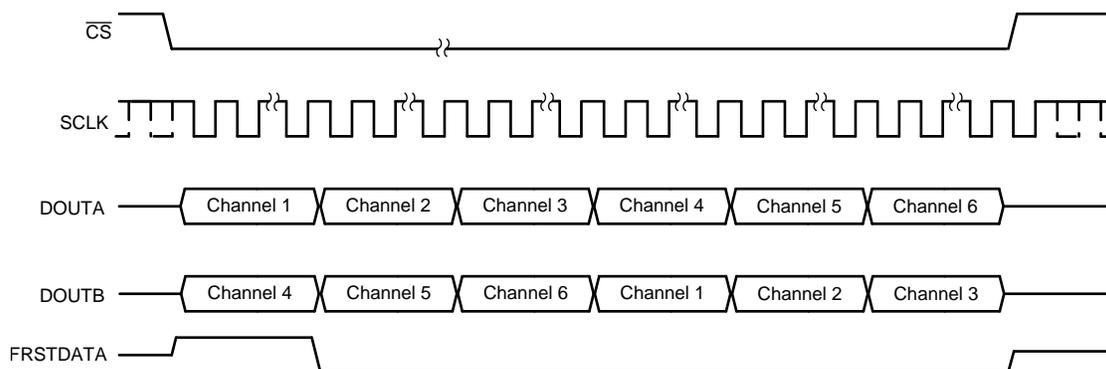

Figure 69. Data Read Back in the Serial Interface Using Either DOUTA or DOUTB Timing Diagram
- The conversion data can be read out of the device using only one of the two serial output lines, DOUTA or DOUTB. In this case, using DOUTA for output data read back is recommended because channel 1 data appear first on DOUTA followed by the data for other channels in ascending order. To read the data for all channels, provide a total of  $16 \times 6 = 96$  SCLK cycles for the ADS8586S. This entire data frame can be created within a single  $\overline{CS}$  pulse or each group of 16 SCLK cycles can be individually framed by the  $\overline{CS}$  signal. The primary disadvantage of using just one data line for reading conversion data is that the throughput is reduced if a data read operation is performed after conversion. Figure 69 shows this operation.
- Alternatively, only DOUTB can be used for reading the conversion data from all channels. In this case, everything else remains the same and the output bit stream contains data for all channels in the following order: channels 4, 5, 6, 1, 2, and 3 for the ADS8586S. Figure 69 shows this operation.